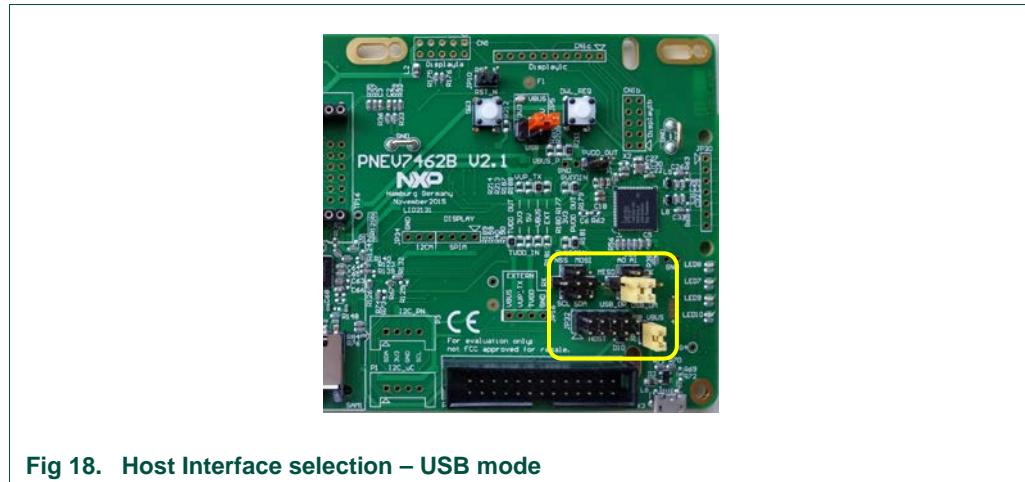

Fig 18. Host Interface selection – USB mode
The antenna connection uses the standard tuning circuit Fig 10. The EMC filter is typically a second order low pass filter as shown in Fig 18, and contains an inductor (L_0) and a capacitor (C_0). The cut off frequency defines the overall detuning behavior as well as the transfer function of the antenna circuit. For symmetrical (DPC) tuning, EMC filter is designed with a cut off frequency of $f_{EMC} = 14.8$ MHz, and the antenna impedance is tuned to $Z = 20\Omega$.
The yellow marked jumpers (Fig 18) need to be set for using the I2C host interface of the chip with LPCXpresso expansion board. This will connect the I²C SCL of the PN7462AU to the I/O P0 (28) and also the I²C SDA of the PN7462AU to the I/O P0(27) of the LPCXpresso board.
To use NFC Cockpit the PNEV7462B board must be configured to use USB host interface as described in Fig 18, which is the default configuration. The use of an external power supply is recommended as described in chapter 3.1.